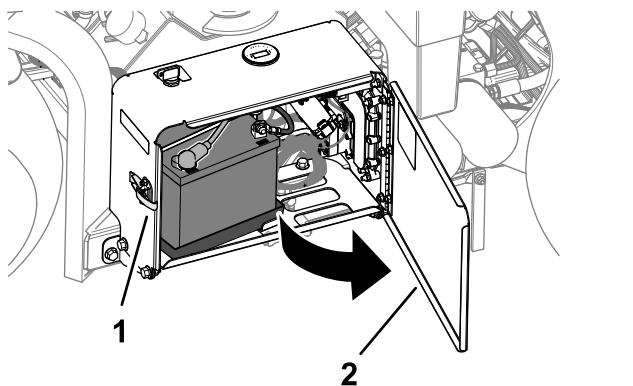

Figure 169
1. Unlatch and open the battery-compartment door (Figure 169).